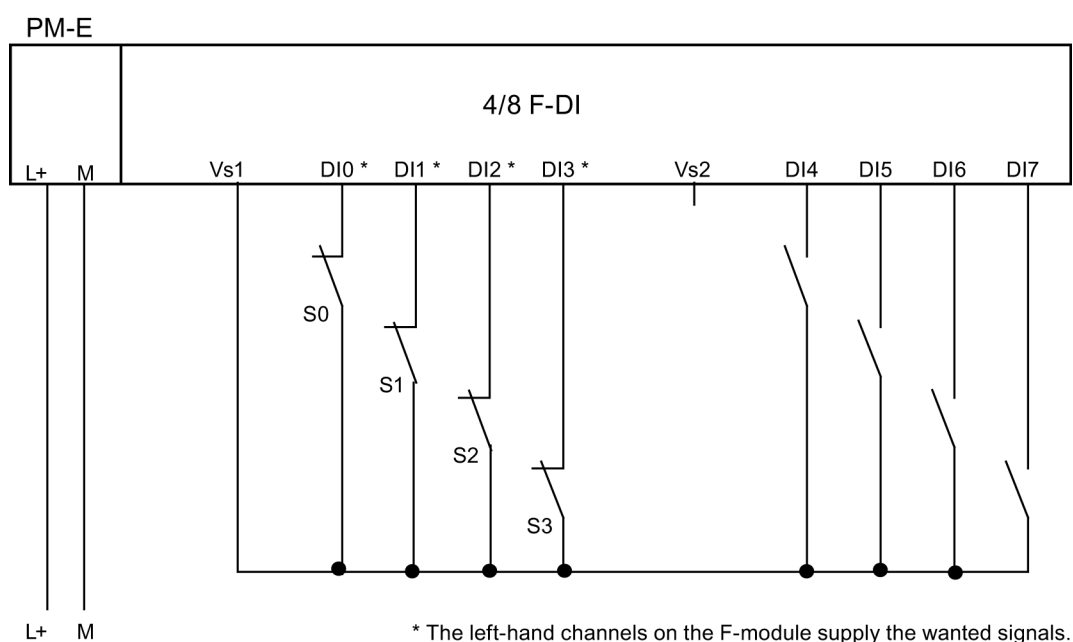

Figure 7-31 Wiring diagram EM 4/8 F-DI DC24V - two single-channel sensors connected non-equivalently via two channels, internal sensor supply
- Application 3.2, see Figure 7-31 Wiring diagram EM 4/8 F-DI DC24V - two single-channel sensors connected non-equivalently via two channels, internal sensor supply (Page 147)